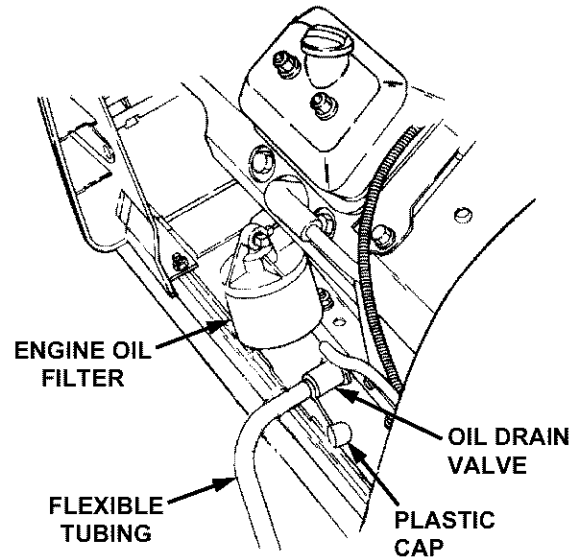

Figure 22
The oil filter is located behind the left side panel and is mounted on the engine (See Figure 22).
- Unseat the plastic dust cap from the engine oil drain valve. To prevent loss of the cap, do not remove the cap's retaining ring from the drain valve (Refer to Figure 22). Remove the dipstick.
6. Remove the oil fill plug/dipstick from the oil fill port and SLOWLY pour oil into the oil fill port. Fill the transmission case until the oil level reaches the "FULL" mark on the dipstick (Refer to Figure 22).